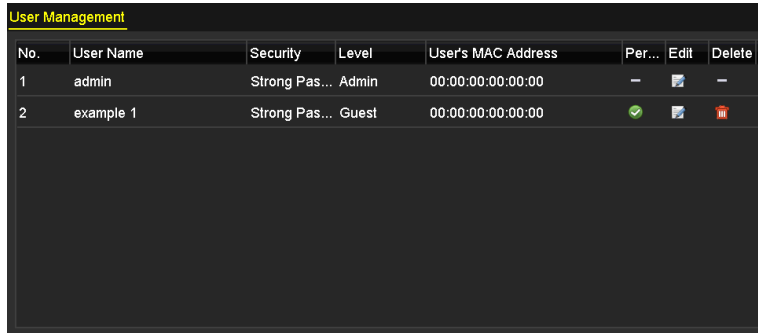

Figure 17-14 Added User Listed in User Management Interface
Step 4 Click the **OK** button to save the settings and go back to the **User Management** interface. The added new user will be displayed on the list, as shown in Figure 17-14.